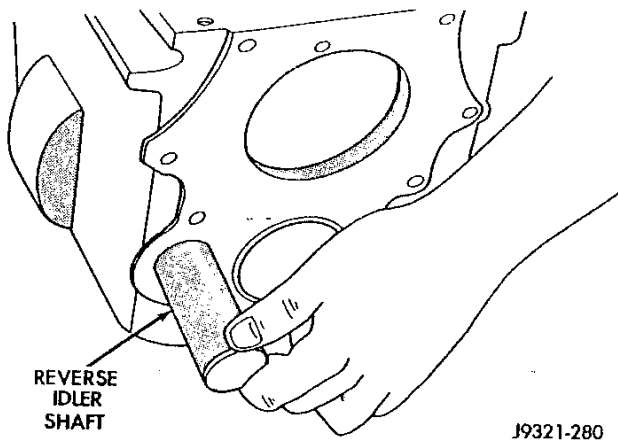

Fig. 16 Reverse Idler Shaft Removal (New Style Gear Case)
(3) Remove reverse idler shaft (Fig. 16)